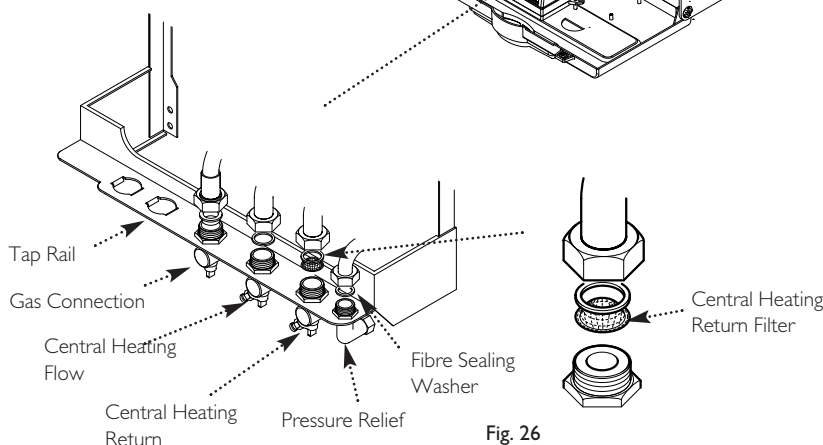

Fig. 26
1. Remove the tape from the tap rail on the support bracket and fit the central heating return filter (Fig. 26).